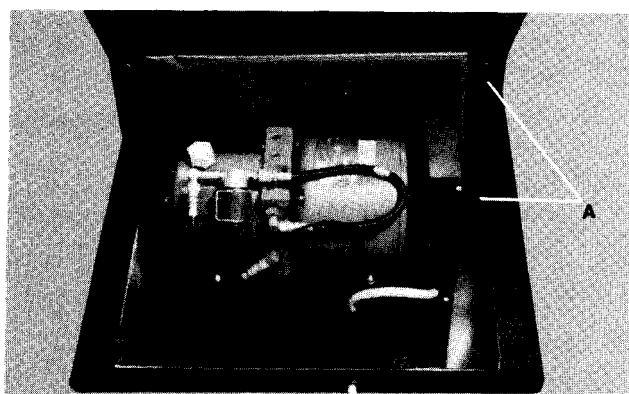

Fig. 14
- 1) Remove rear outer shroud by removing (4) screws, Item A, Fig. 14.
- 2) Replace rear outer shroud by placing shroud in position as shown in Fig. 14, aligning holes, and installing (4) # 6 x 3/8" screws, Item A, Fig. 14.